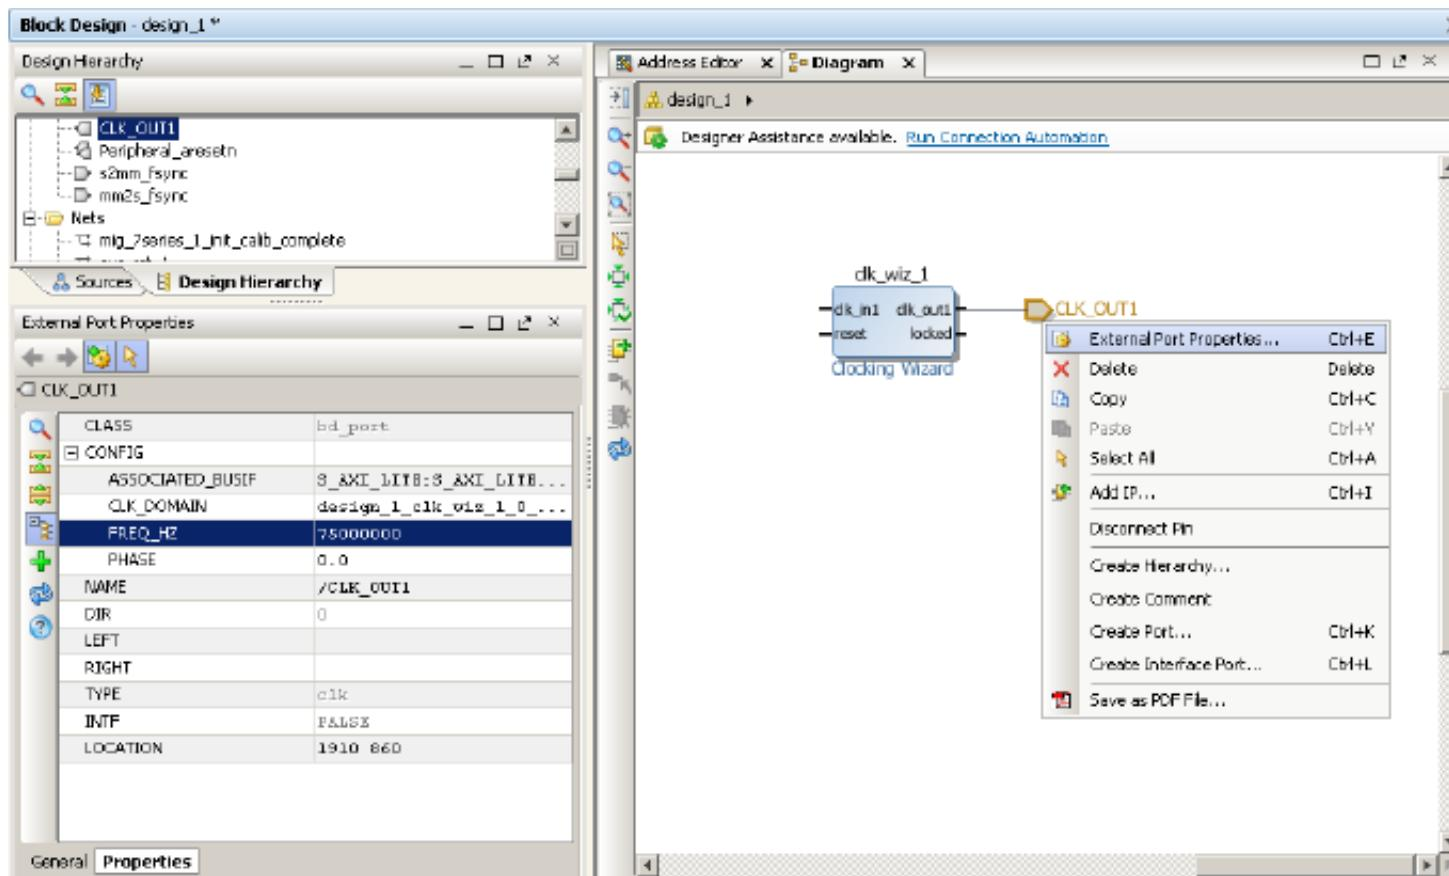

Figure 57: Set Frequency for Clock Ports
1. To set the clock frequency and the phase for the output port, CLK_OUT1, (Figure 57):